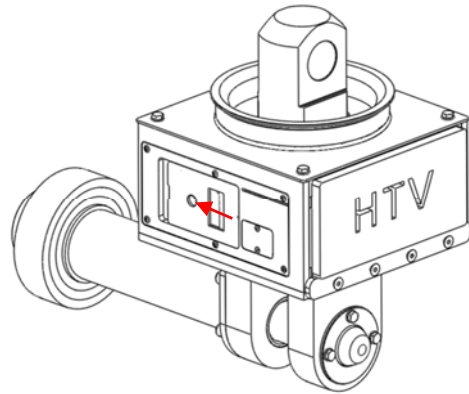

Figure 9 - Slide battery
2. Slide the battery into position, until the positioner holds it in place (*Figure 9 - Slide battery*).
2. To release the front bushing, first remove the three screws which hold it in place (*Figure 9*) and extract the bushing from the orifice of the clevis arm using the special tool supplied with the equipment (**¡Error! No se encuentra el origen de la referencia.**).